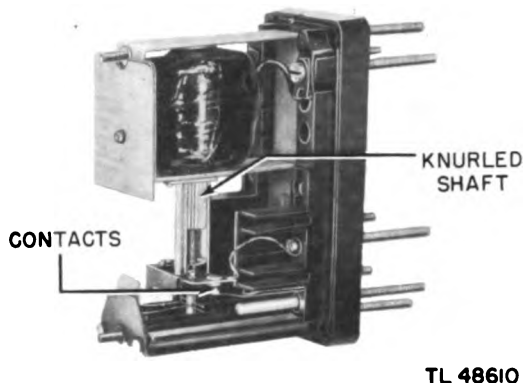

Figure 2-11. Power panel overvoltage relay.
(6) *Power Panel Overvoltage Relay.* Remove the glass-faced cover before performing the maintenance operations. The overvoltage relay, K-301, is adjusted by turning the knurled shaft; screwing the shaft up trips the relay at a lower voltage, and screwing the shaft down trips the relay at a higher voltage (fig. 2-11). See TM 11-1566, chapter 15, for the correct setting.